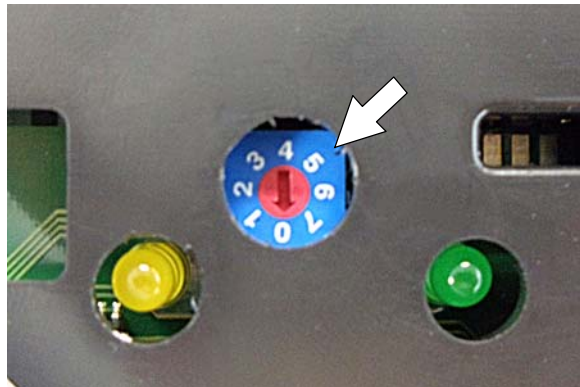

FIG. 125
- Using a small standard screwdriver, turn the dial to the appropriate battery type according to the following chart (Figure 125).